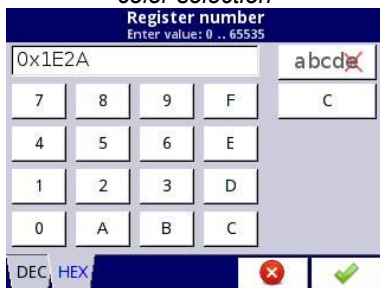

Fig. 7.7. Value editor – hexadecimal form
- hexadecimal form, see **Fig. 7.7**,